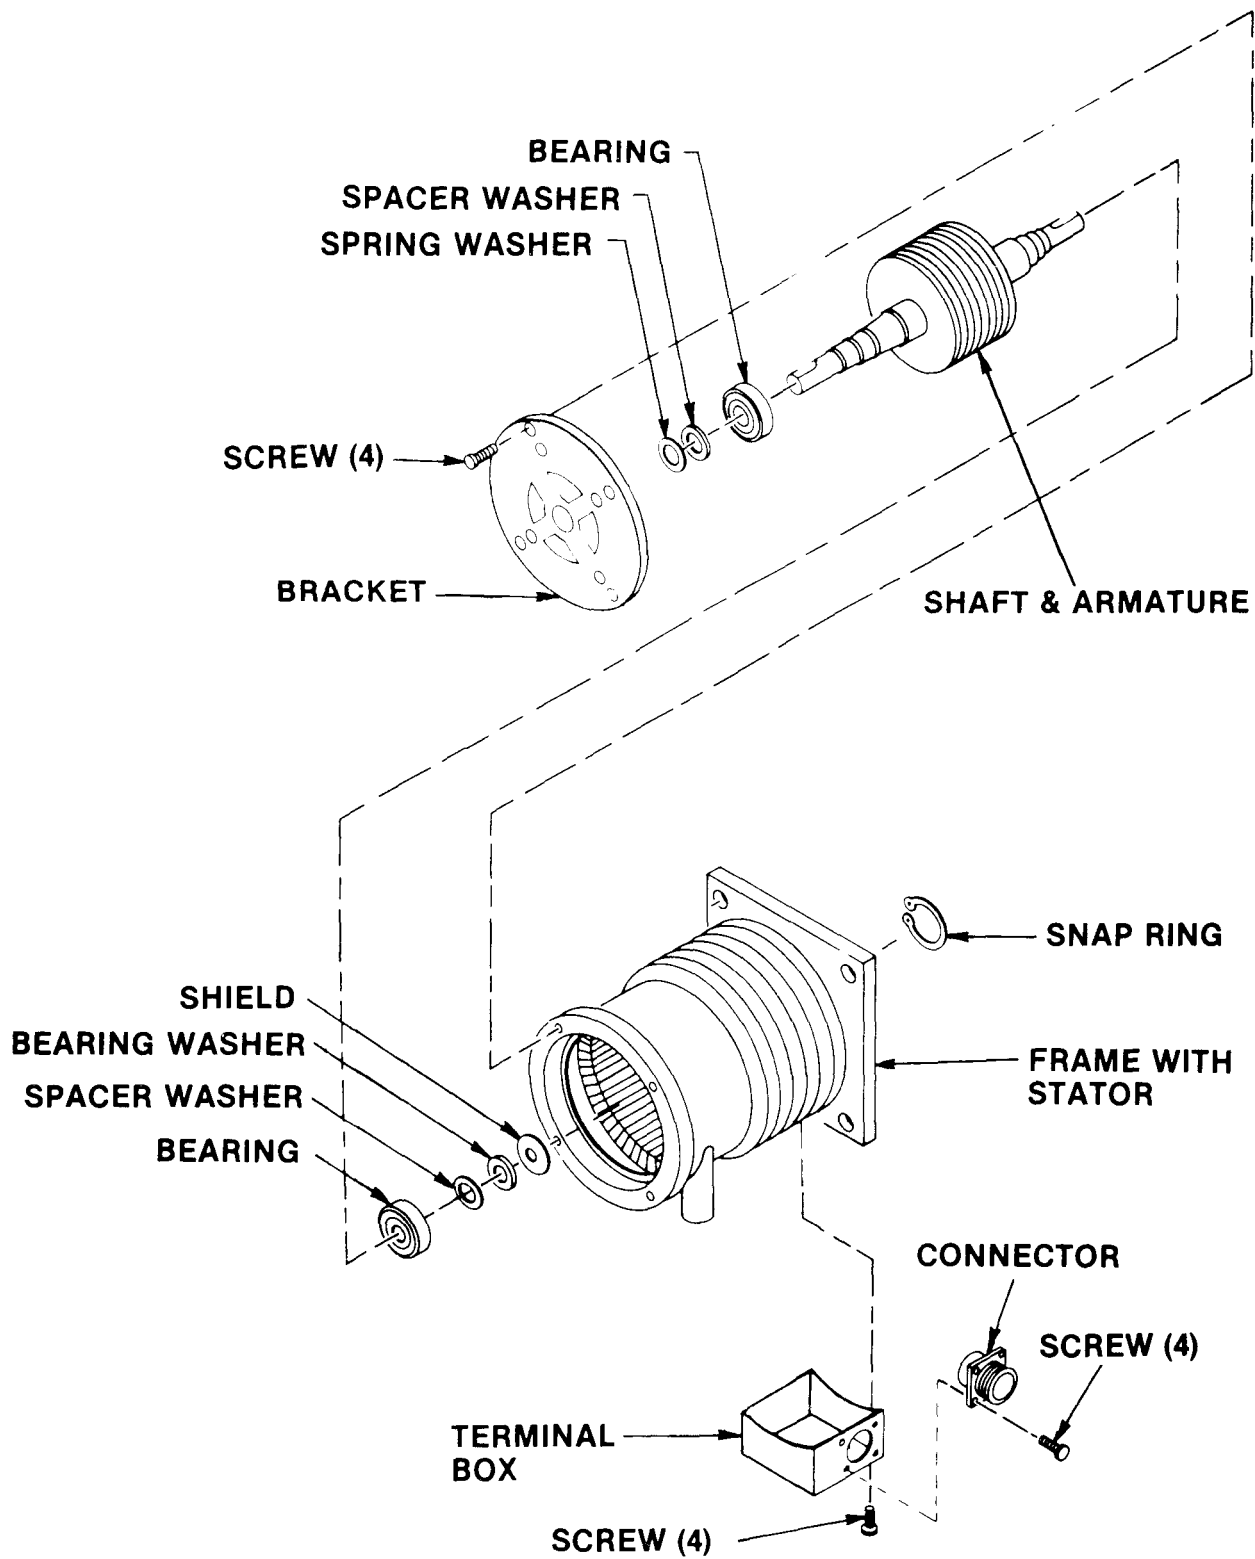

Figure 5-1. Evaporator and Condenser Fan Motor
b. Disassembly- Disassembly motor only as necessary to do required repair. (See Figures 5-1 and 5-1.1.)